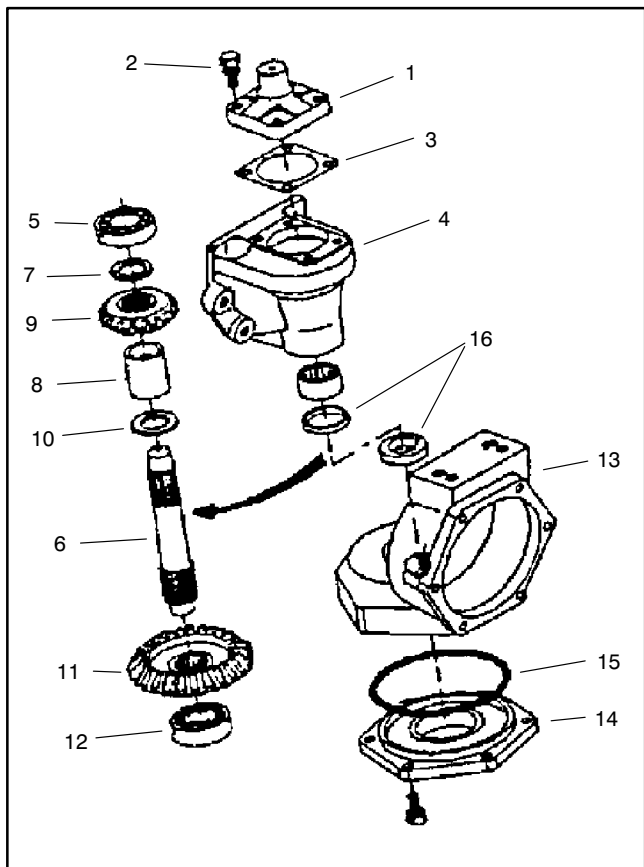

Figure 4
5. Remove the knuckle pin mounting screws and the knuckle pin. Remove the gasket and any remaining gasket material from either mating surface (Fig. 4).
10. Remove and discard bevel gear shaft seals from bevel gear case and axle case (Fig. 4).